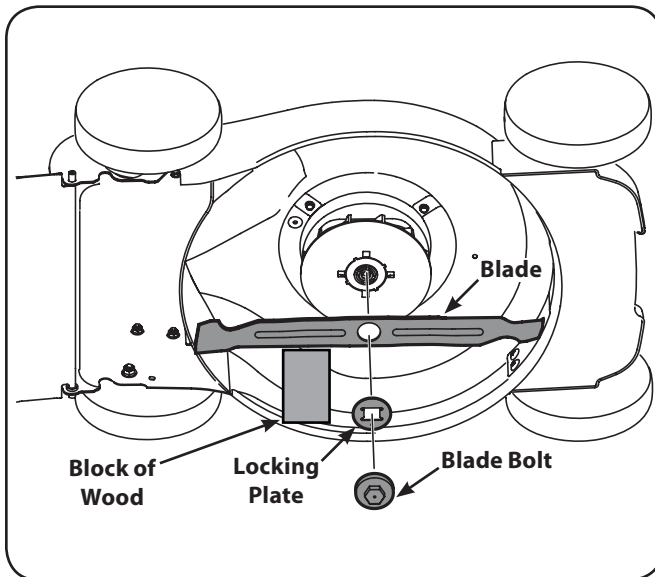

Figure 7-1
3. Loosen and remove the blade bolt, locking plate, and blade. See Fig. 7-1.
1. Place the cutting blade, locking plate, and blade bolt on the motor shaft and thread the blade bolt in finger tight. Refer to Fig. 7-1.